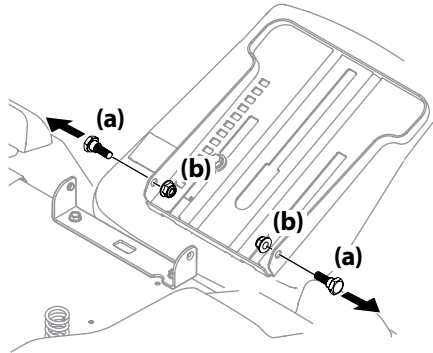

Figure 2-8
- Remove the two shoulder screws (a) and flange lock nuts (b) in the seat pan as shown in Figure 2-8.